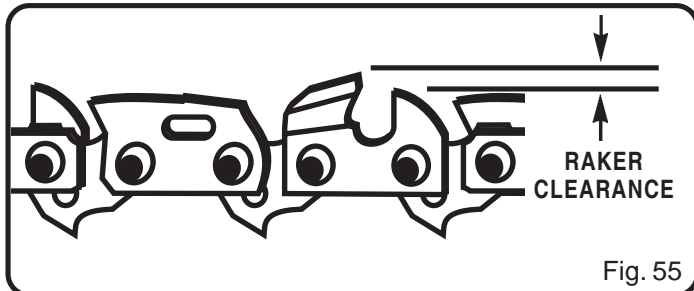

Fig. 55
■ Raker (depth gauge) clearance. See Figure 55.